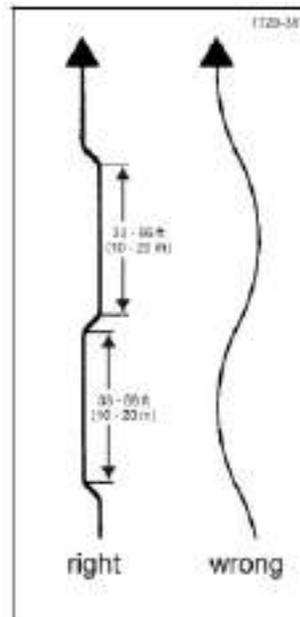

Figure 65. Driving pattern
- In case of small swaths, i.e. the swath width is less than the bale chamber width, drive alternately on the right and left swath side to fill the bale chamber evenly (see Figure 65 on page 9-6)